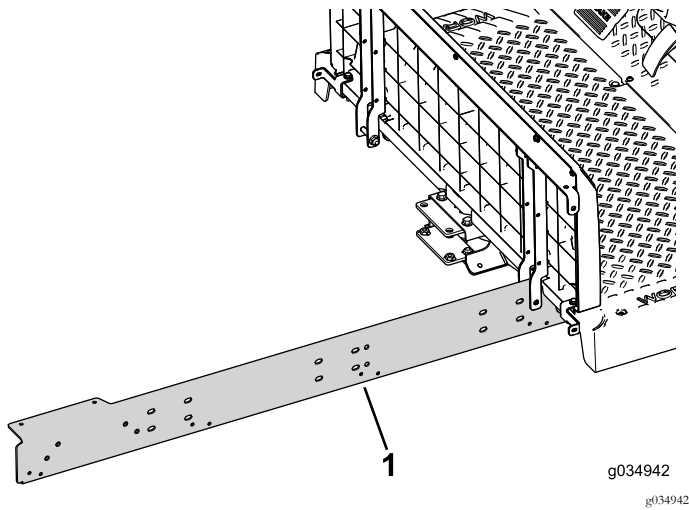

Figure 71
2. Loosely install the extension rail to the right side of the machine (Figure 71).